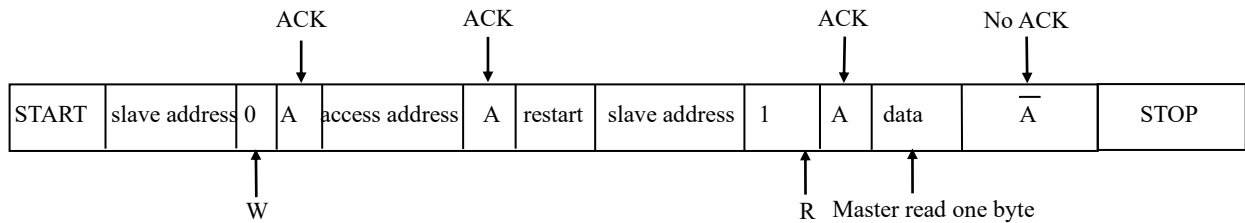

Figure 15-8 Master read one byte data from slave
As Figure 15-8 shown, master read one byte data from slave, first master sends a START signal, then follows a slave address, the 8th bit of the address is 0, it indicates a write command to slave, the master wait slave give an acknowledge(A) at this time, when master received an acknowledge signal, send the address will be accessed, and wait slave give an acknowledge again, then master will change the communication mode(master changed from transmitter to receiver, slave changed from receiver to transmitter) after received an acknowledge. So master send a restart signal, then follows a slave address, the 8th bit is 1, it indicates master has been set receive mode and start to receive data, this time master wait an acknowledge from slave, when master received acknowledge signal, then it can receive one byte data, when receive is completed, master send a no acknowledge signal, it indicates receive end, master generates a stop signal, and end the transmission.